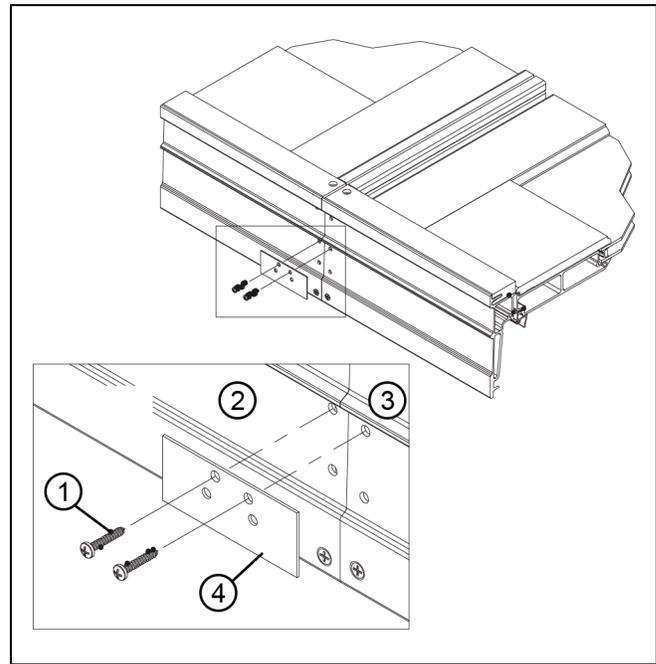
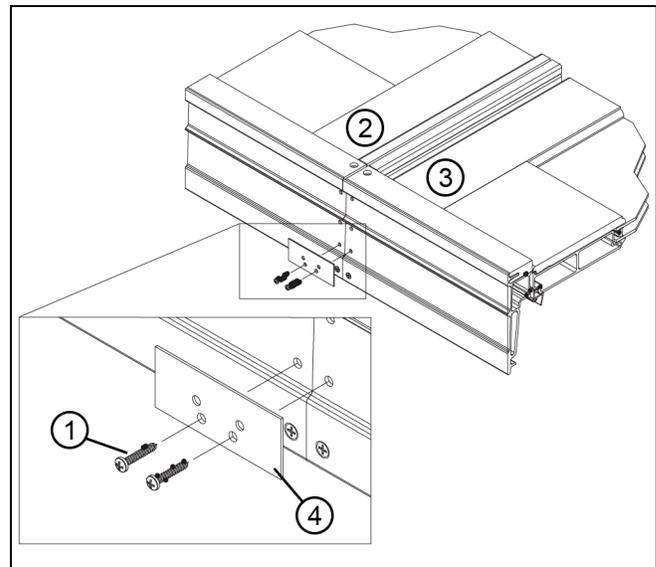
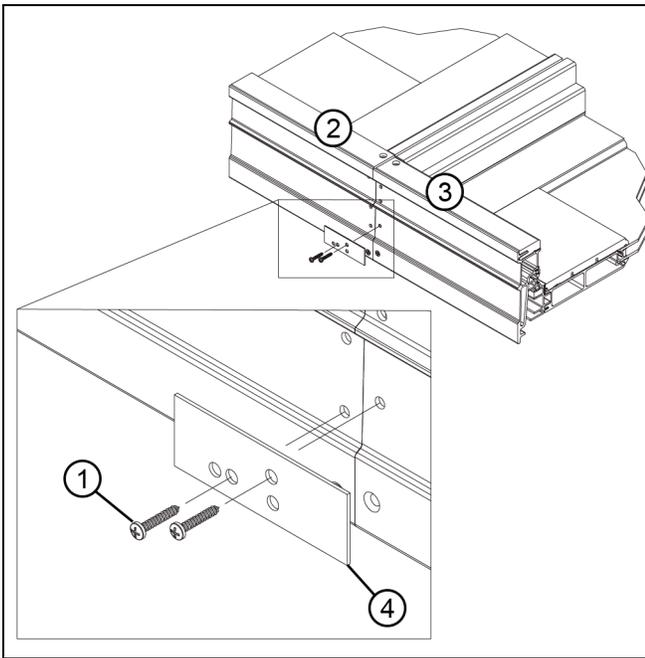
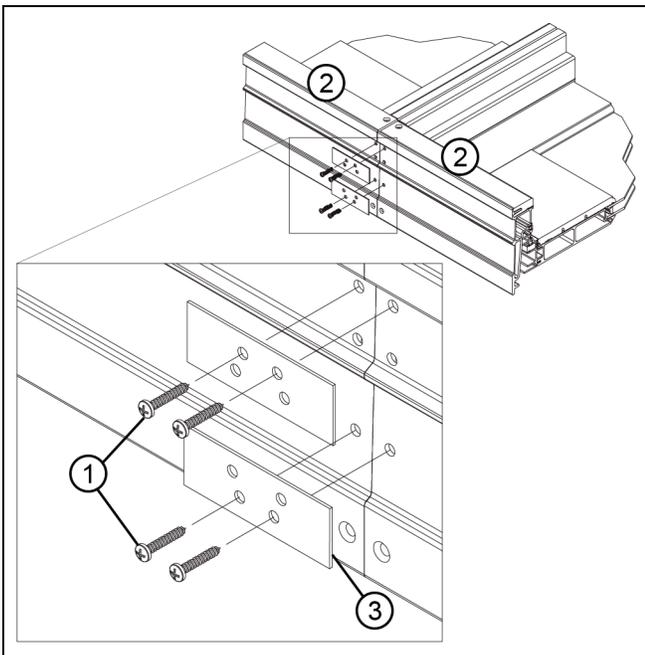

Figure 11 ELSFD to ELIFD
Figure 12 ELIFD to ELIFD
Figure 13 ELSFD to ELOFD
Figure 14 ELOFD to ELOFD
7. If mulling a direct glaze polygon beside an inswing door, skip to step 9 on page 8. Remove the #8 x 1" Phillips pan head screws from the interior side of sill on each unit. Align holes on interior sill mull bracket and reattach with screws removed previously. See Figure 11, Figure 12, Figure 13, or Figure 14. Skip to step 10 on page 8.